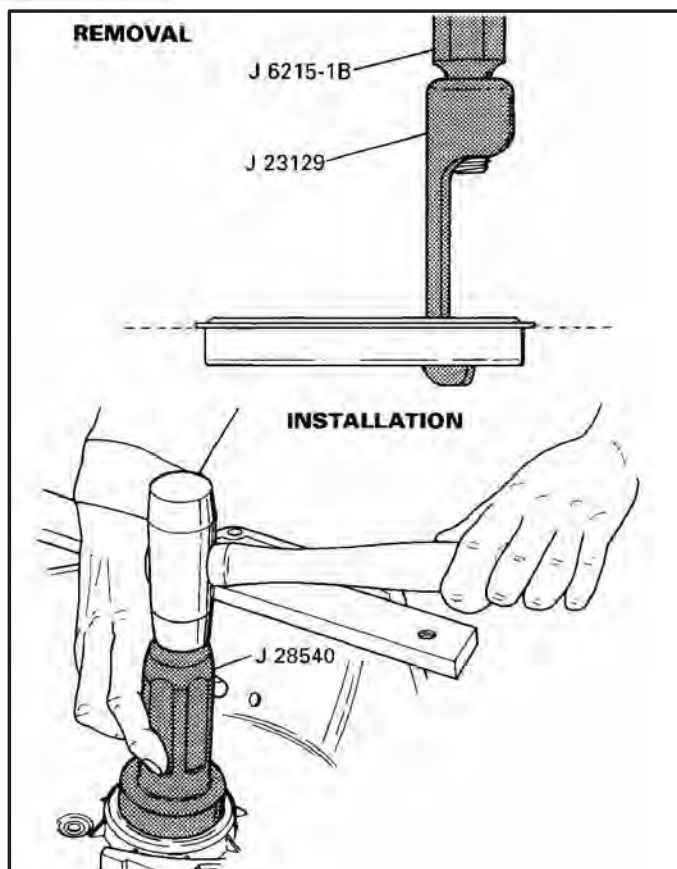

Figure 76
14. Remove the converter seal from transaxle case using the tools shown in Figure 76.
15. Install a new converter seal using the proper seal driver, as shown in Figure 76.